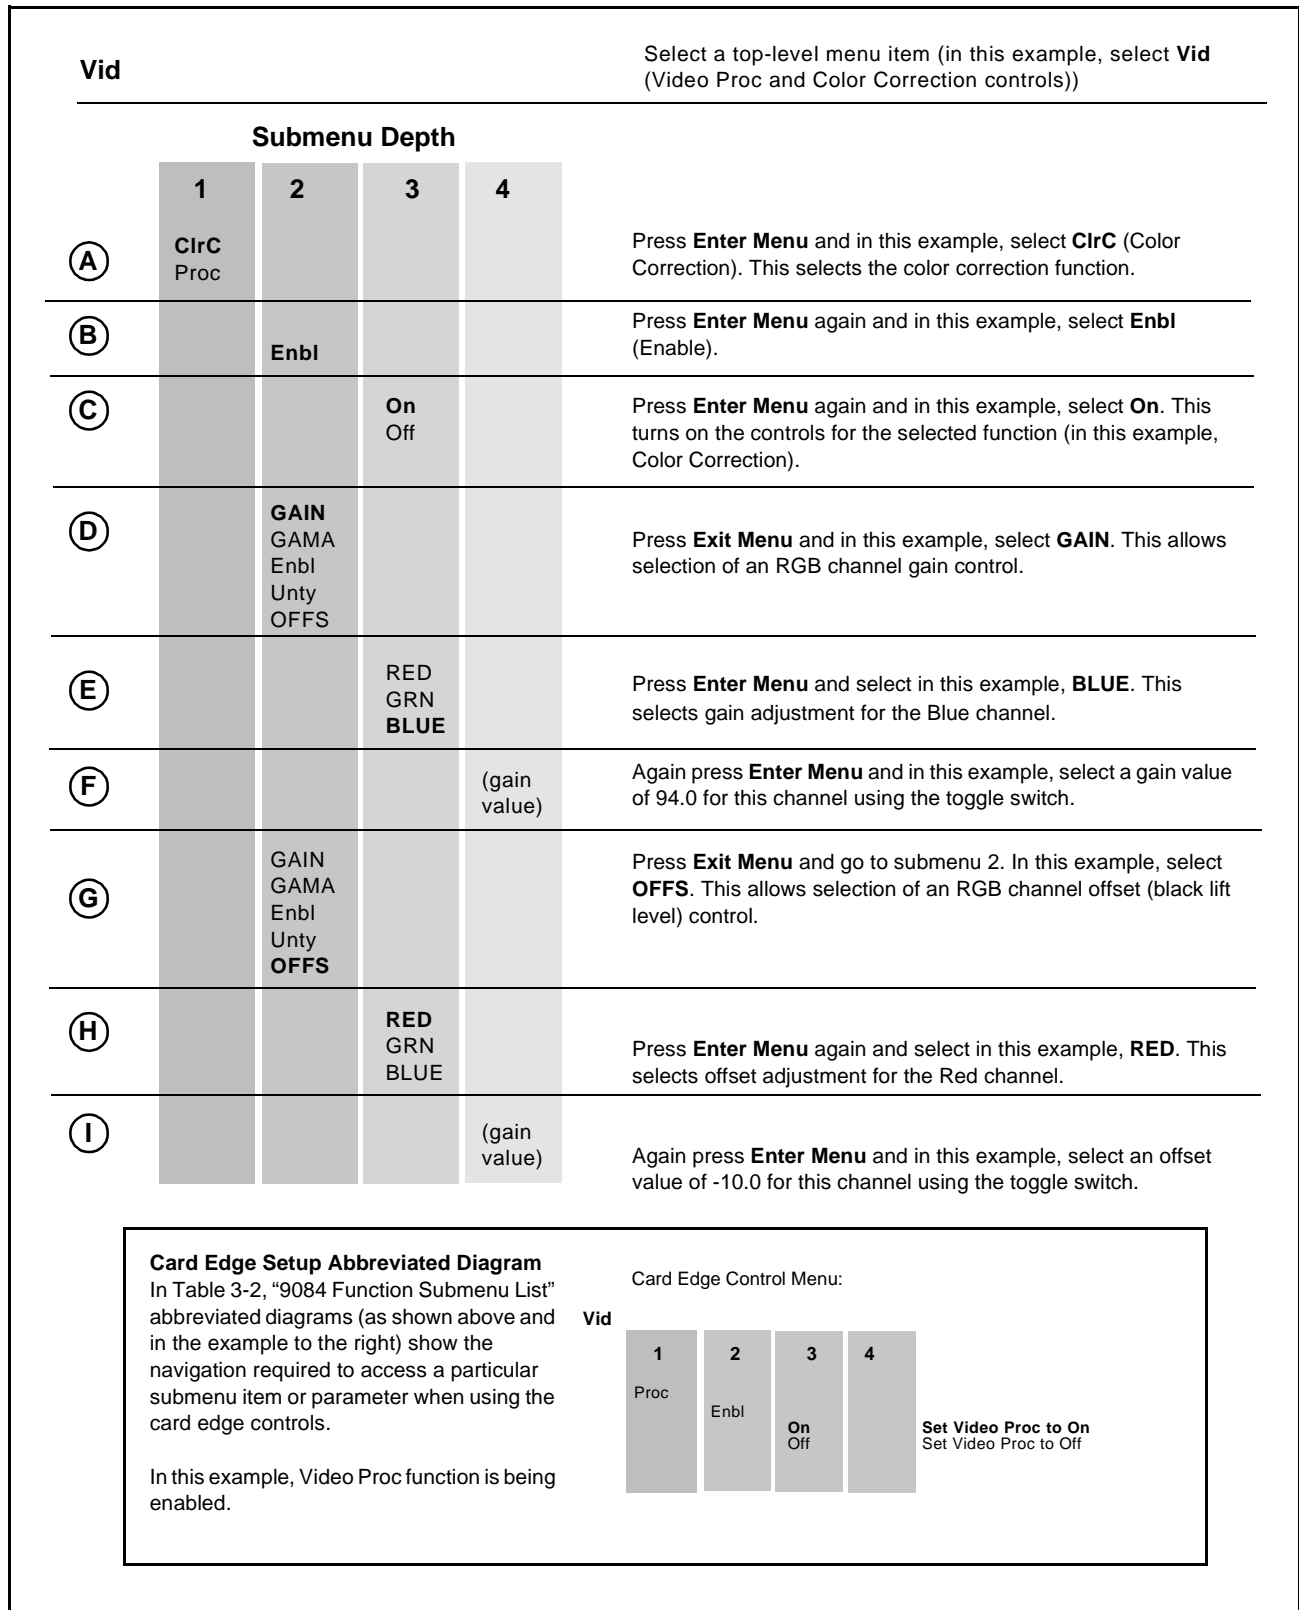
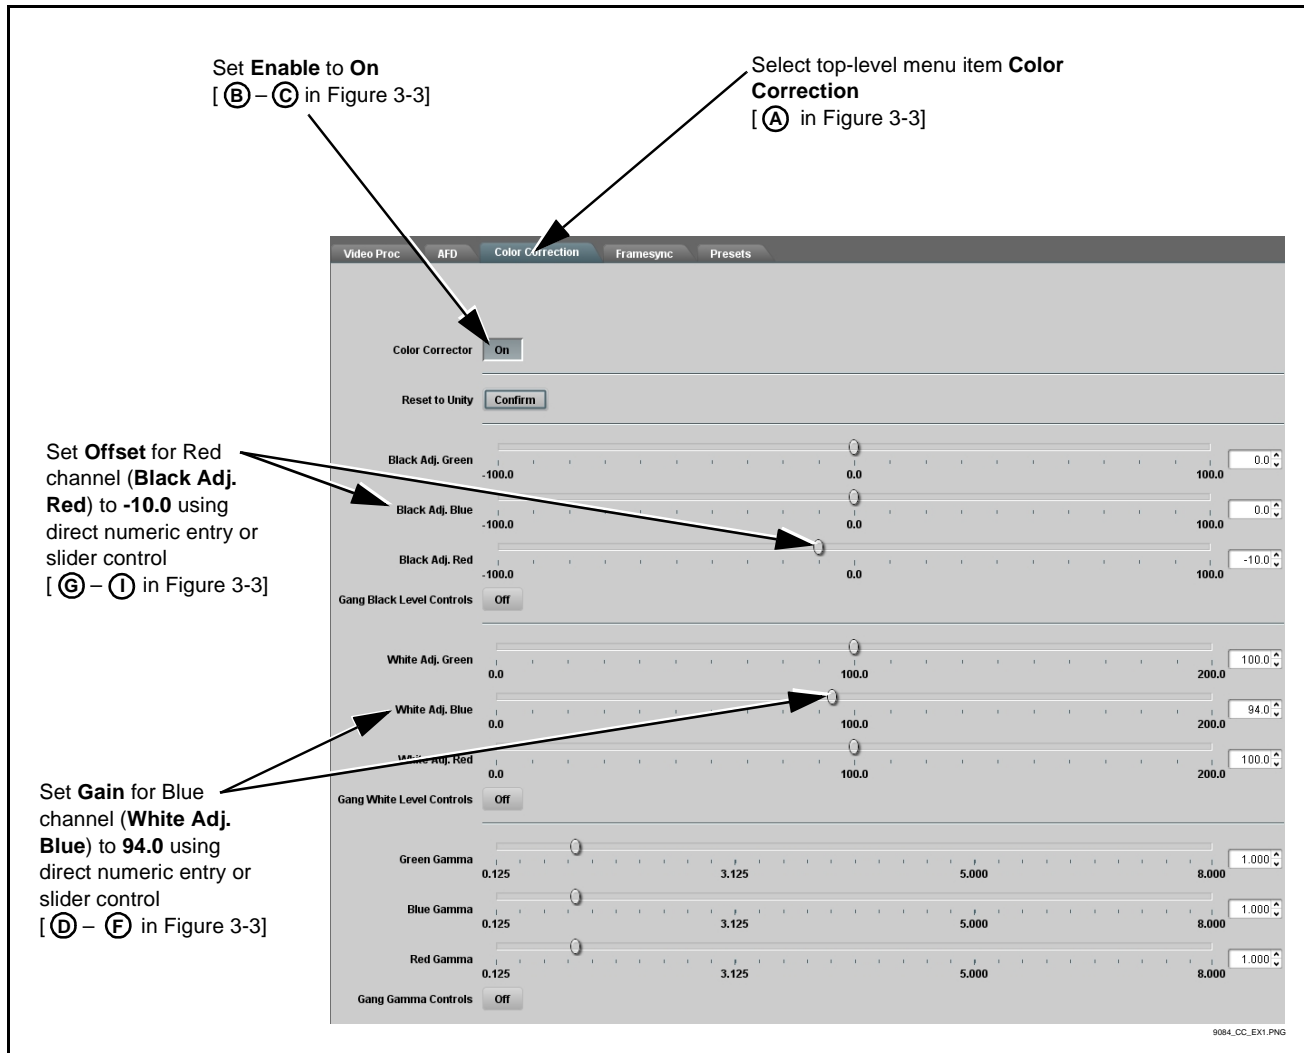

Figure 3-3 Card Edge Controls Setup of Example Color Correction Function
Figure 3-5 DashBoard™ Setup of Example Color Correction Function
Figure 3-3 shows an example of using the card edge controls to access the Color Correction menu (along with some of its submenus) to adjust color channel gain and 0-levels. (A) through (I) in Figure 3-3 denote the discrete tasks required in performing the example setup using the 9084 card edge controls.
Due to the limited control available when using the card edge control user interface, the navigation into and out of submenus shown in Figure 3-3 is required to perform the adjustments described above.
(See Figure 3-5.) The 9084 function submenus are organized in DashBoard™ using tabs (for example, “Color Correction” in Figure 3-5). When a tab is selected, each parametric control or selection list item associated with the function is displayed. Scalar (numeric) parametric values can then be adjusted as desired using the GUI slider controls. Items in a list can then be selected using GUI drop-down lists. (In this manner, the setting effected using controls and selection lists displayed in DashBoard™ are comparable to the submenu items accessed and committed using the 9084 card edge controls.)
Figure 3-5 shows the same setup described in Figure 3-3 as performed using DashBoard™. Note how this setup is greatly simplified using DashBoard™ with most of the discrete tasks ((A) through (I) in Figure 3-3) performed with the card edge controls now rolled into simple actions using DashBoard™.
If using card edge controls, refer to 9084 Card Edge Control Menu/Submenu Structure (p. 3-4) and Figure 3-3 for an explanation and an example of card edge control menu structure navigation.